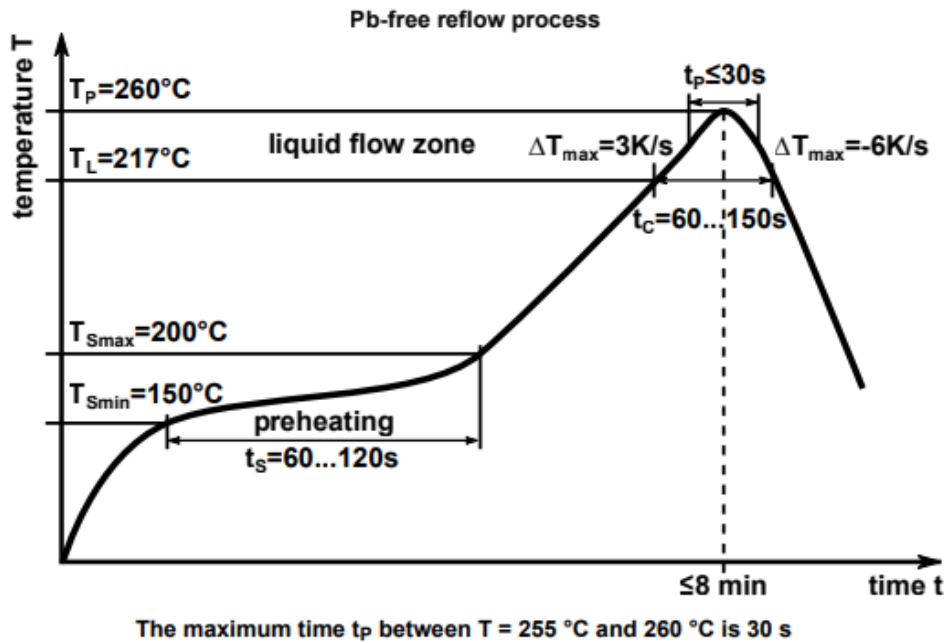

Figure 1: Recommended reflow profile using a standard reflow soldering oven
For soldering, a standard convection reflow soldering oven may be used (no vapour phase and no wave soldering). For this purpose, a lead-free, air, and nitrogen reflowable no-clean type 3 solder paste, which meets the requirements of the RoHS Directives 2011/65/EU and (EU) 2015/863, as well as the standards by J STD 004 is recommended. Figure 1 below shows a typical soldering profile.